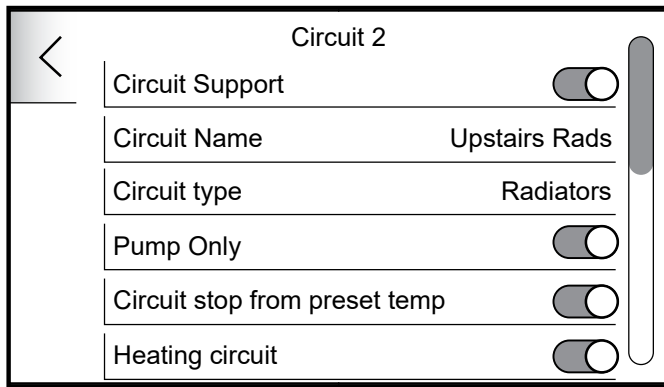

Figure 7-13: Edit Circuit 2 settings
- Swiping the touchscreen display scroll down to 'Circuit stop from Preset temp'. Tap the icon to switch on. (Refer to Figure 7-13).